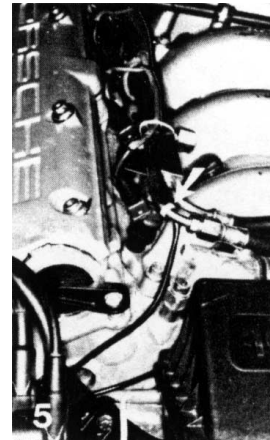

Figure 5
19. Route new wire from 14 pin plug through tie straps on partition wall to fuel rail. Route wiring through tie straps on fuel rail towards the belt cover. Tie down wiring on fuel rail with additional tie strap. Part Number N 020 902 4 (Figure 5).